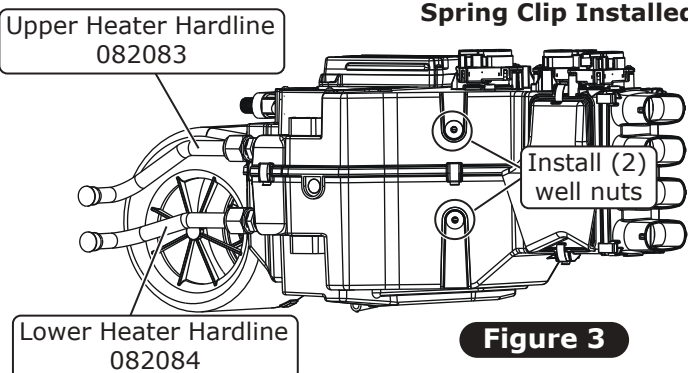

Figure 3
4. Install the (2) hardlines as shown in Figure 3, below, with (2) properly lubricated #10 O-rings (See Lubricating O-rings, Page 12), do not fully tighten, they will get adjusted in the next steps.
5. Install (2) well nuts next to the floor plenum (See Figure 3, below).